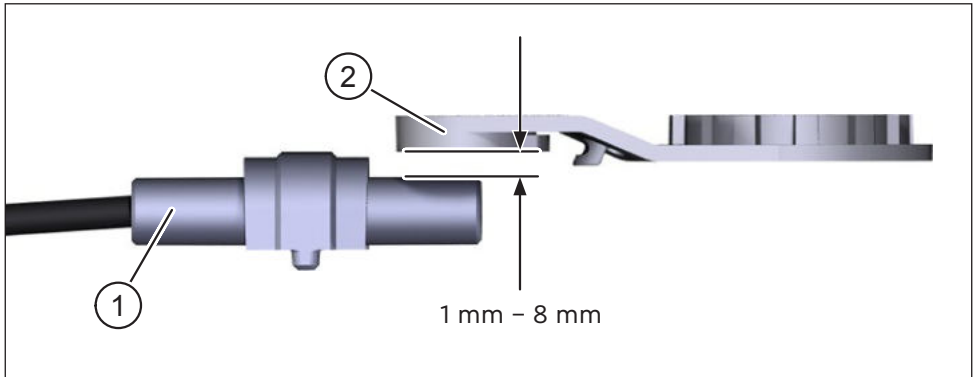

Fig. 1: Mounting - Distance between Speedsensor and magnet
The speed of the e-bike is measured with support of a magnet (item 2 in Fig. 1) which triggers pulses at the speed sensor (item 1 in Fig. 1). The Speedsensor and magnet are mounted at manufacturer with a distance between 1 mm and 8 mm (see Fig. 1) in the area of the rear wheel.